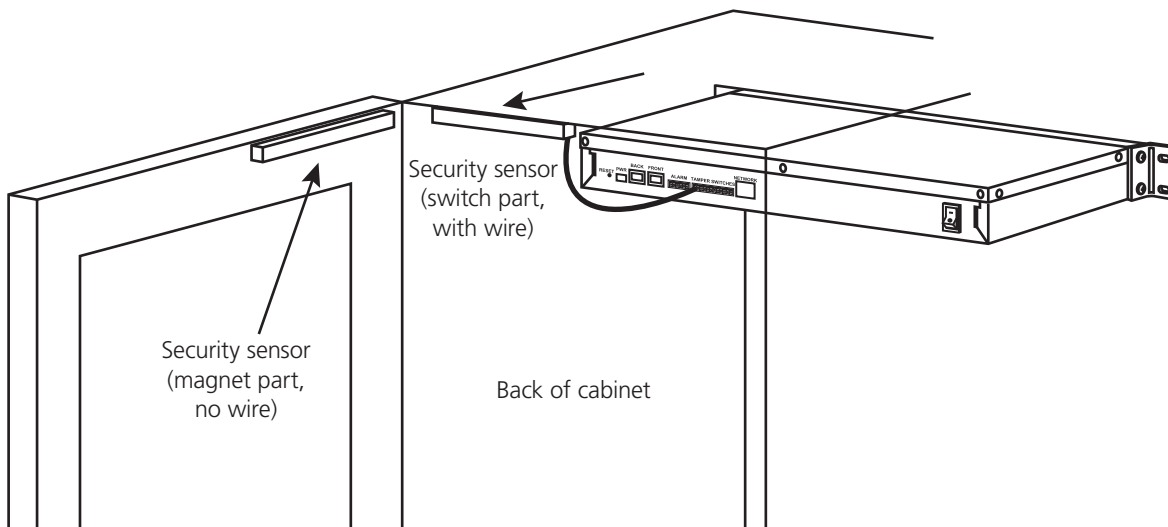

Figure 16. Using a security sensor.
- To use one of the security sensors, follow the example shown in Figure 16. The example connects to Pins 1 & 2. Additional security sensors can be connected to any of the remaining pairs of pins.